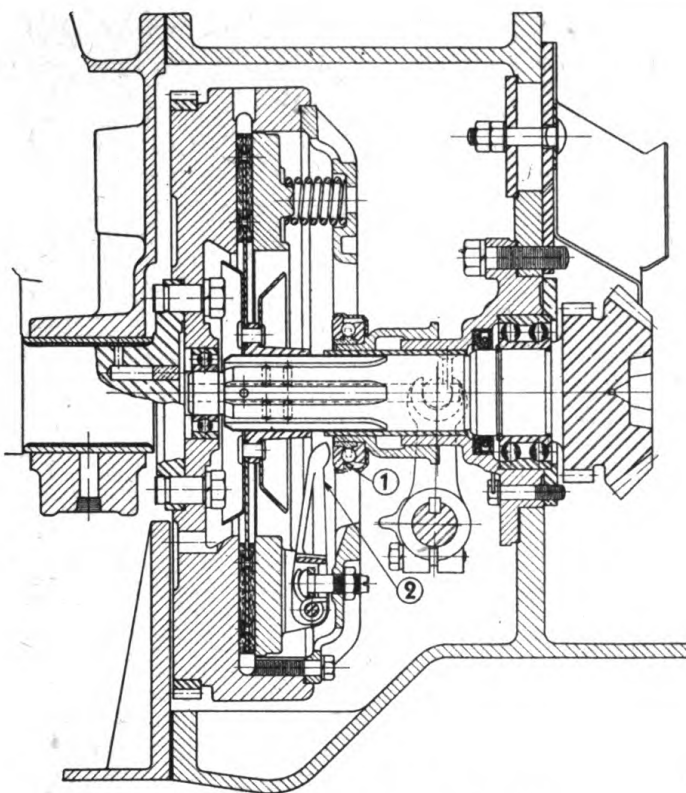

Fig. 25. Foot Operated Clutch
2. Throwout bearing 1, Fig. 25 must not be in contact with clutch finger (2).